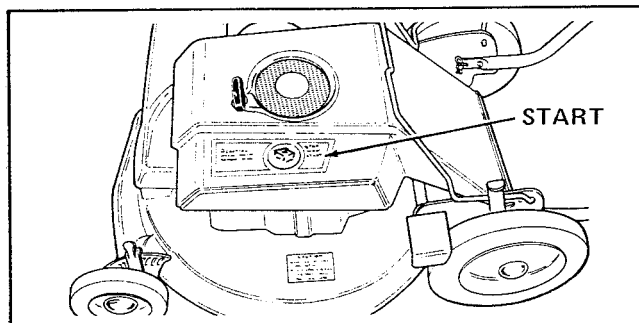

Figure 8. Set Speed Control to START
2. Set speed control knob (see figure 8) at START to position the automatic choke.